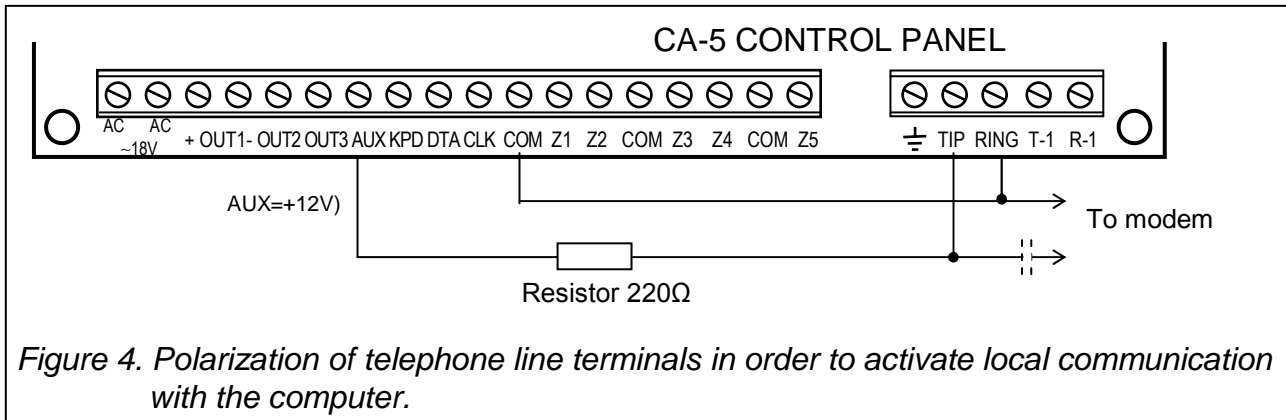

Figure 4. Polarization of telephone line terminals in order to activate local communication with the computer.
**The local mode** of programming can be entered by connecting the modem directly to the properly polarized TIP and RING telephone terminals of the control panel (see Figure 4). The telephone line must be disconnected from the control panel.